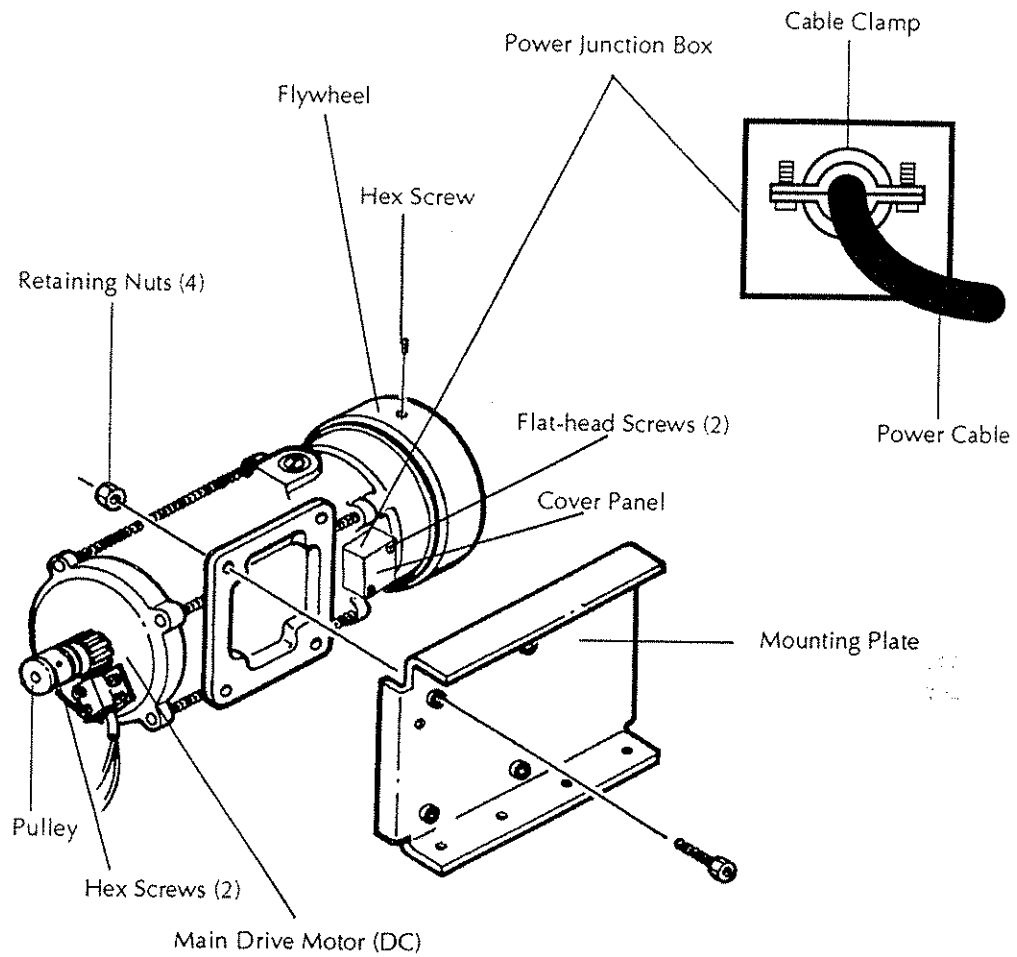

Figure 5-17: Replacing the Main Motor's Ancillary Components
12. Remove the four nuts securing the mounting plate to the main motor. See Figure 5-17. Set the mounting plate aside.
13. Loosen the two hex screws securing the pulley to the main drive motor's shaft. See Figure 5-17. Slide the pulley off the drive shaft and set it aside.
14. Loosen the single hex screw securing the flywheel to the main drive motor's shaft. See Figure 5-17. Slide the flywheel off the drive shaft and set it aside.
15. Remove the two flat-head screws securing the cover panel to the main drive motor's power junction box. See Figure 5-17. Set the cover panel aside.
16. Loosen the outside cable clamp attached to the power junction box. See Figure 5-17.
17. Label and separate each of the incoming power wires from the main drive motor wires. See Figure 5-17. Pull the power cable through the opening in the junction box.